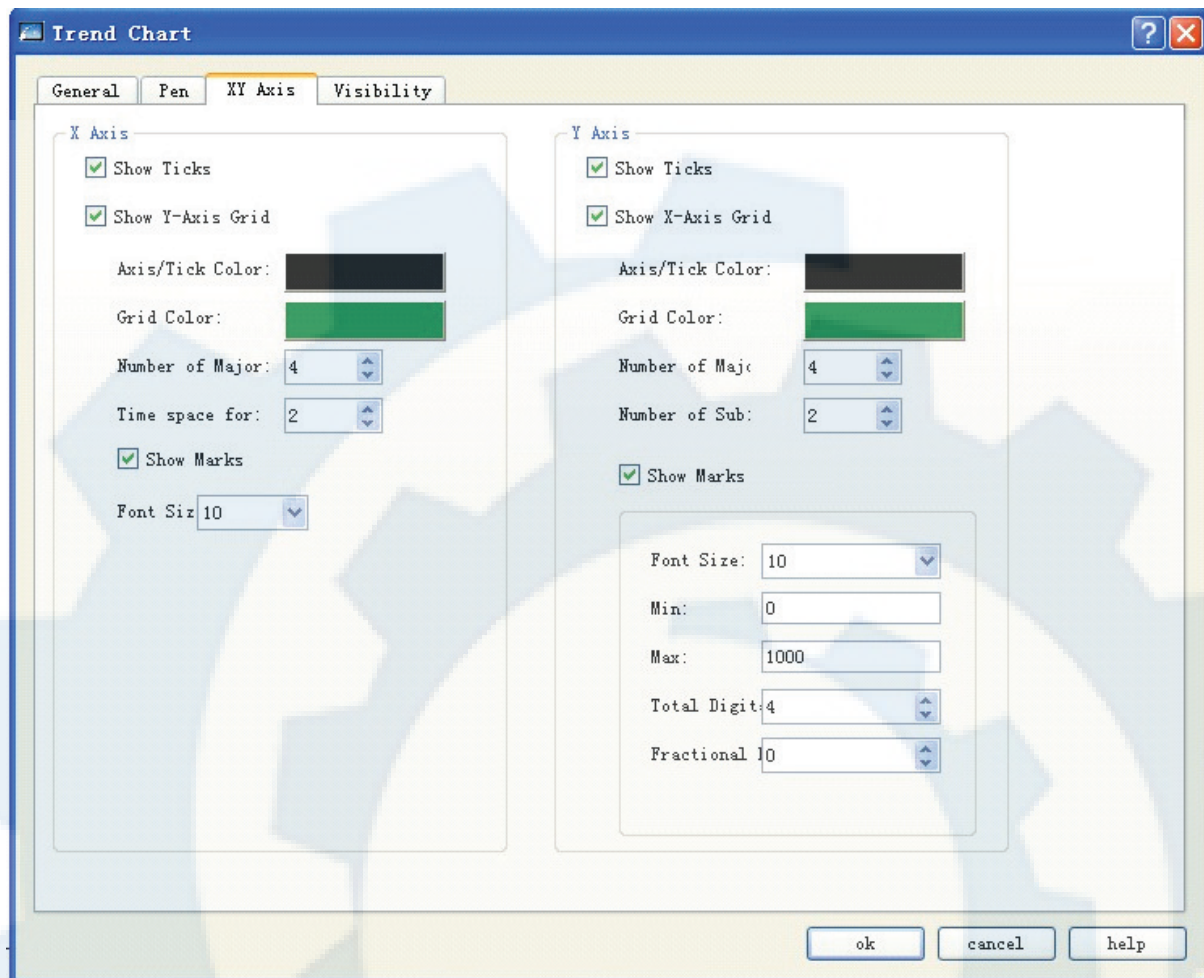

Figure 4-57: XY Axis tab of Trend Chart
3. XY Axis tab. See Figure 4-57.